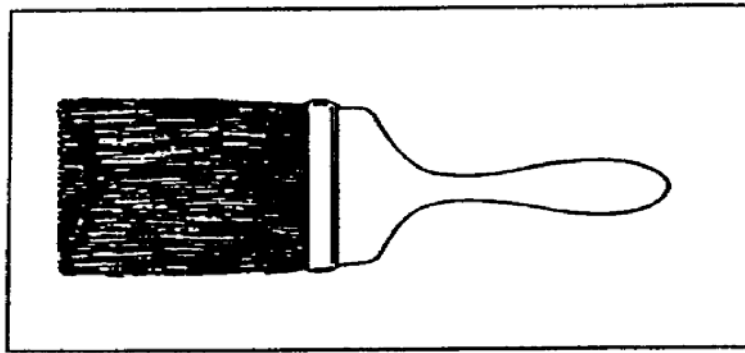

Figure 3-26. Chisel-shaped varnish paintbrush
- Clear coatings. Use a paintbrush designed for a varnish (Figure 3-26), shellac, or lacquer finish. The brush is usually chisel-shaped, which contributes to smoother applications and prevents lap marks. Paintbrushes are 2 to 4 inches wide and have extra-fine bristles that are 4 to 6 inches long.